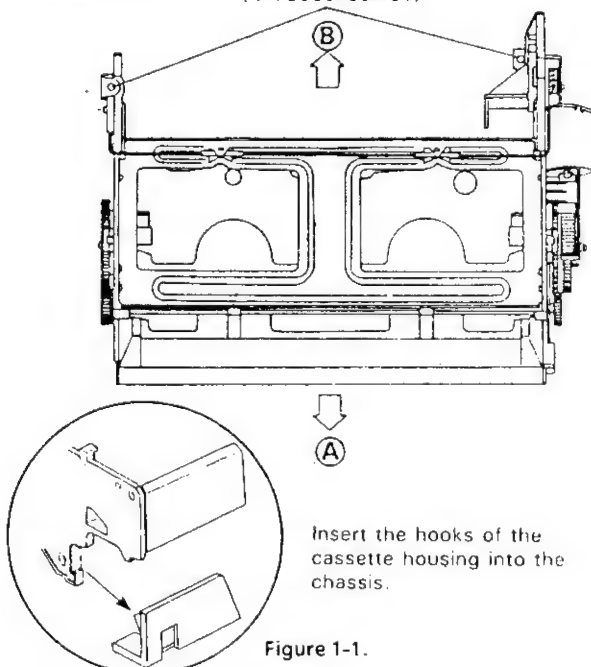

Figure 1-1.
4. Move the cassette housing control assembly (Fig. 1-1) in the direction of arrow ⇒ ⑥, and pull it out straight upward.